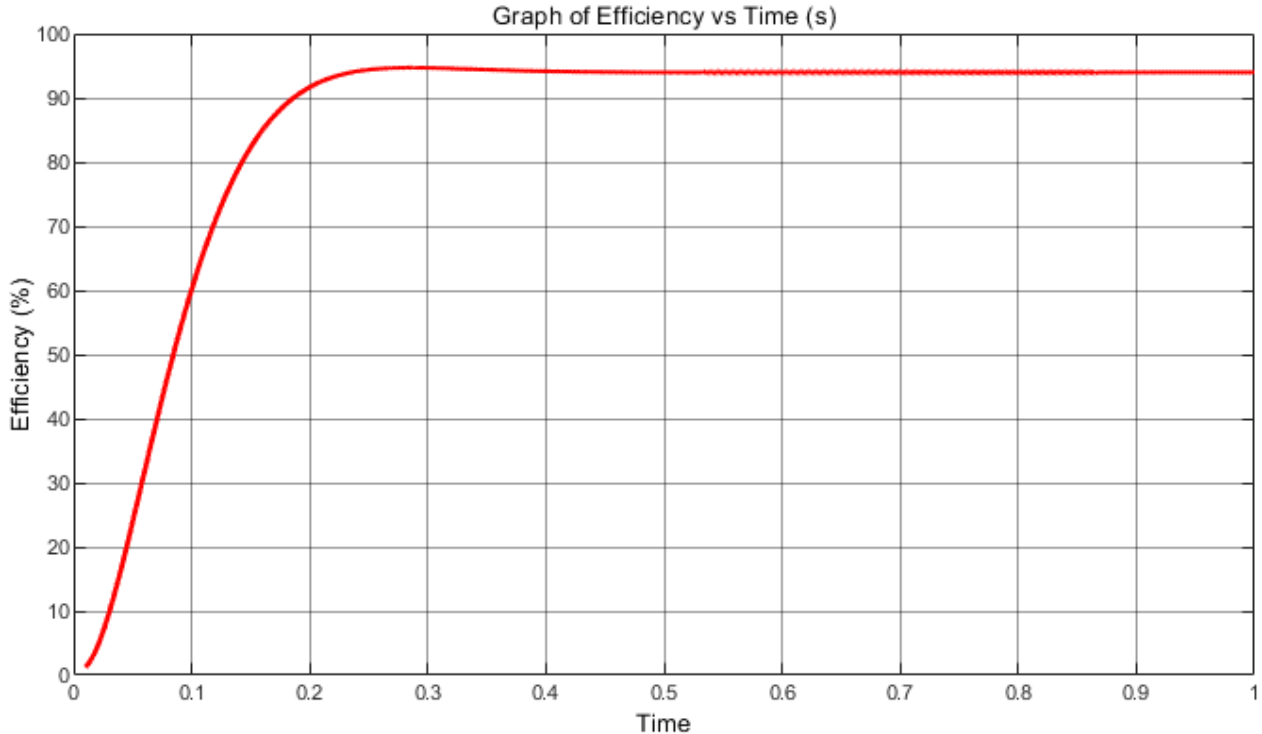

Figure 19: Graph of Efficiency vs Time (s)
**Comment:** Efficiency of motor is too low before reaching steady state. This is caused by high armature current that results in high copper losses. Motor doesn't generate enough back EMF at low speed, this explains why armature current makes peak. As it can be seen from figure 19, DC motor has efficiency of around %93.